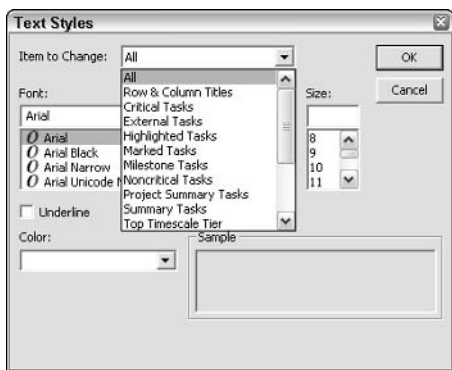

Figure 8-8: The default in the Item to Change list box is All (that is, all the text in your project schedule).
1. Choose Format⇨Text Styles to open the Text Styles dialog box, shown in Figure 8-8.